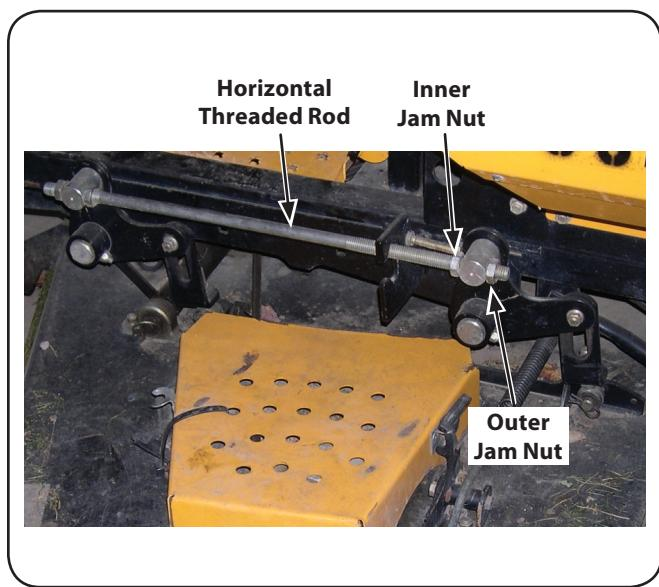

Figure 6-9
2. Loosen the inner jam nuts at the rear left and right of the horizontal threaded rods. See Fig. 6-9.